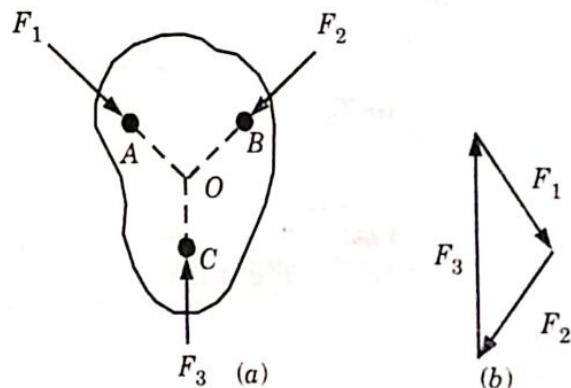

Fig. 3.3.2.
- B. **Three Force System** : Fig. 3.3.2(a) shows a three force system. The body will be in equilibrium if
2. The three forces make a closed vector diagram as shown in Fig. 3.3.2(b).